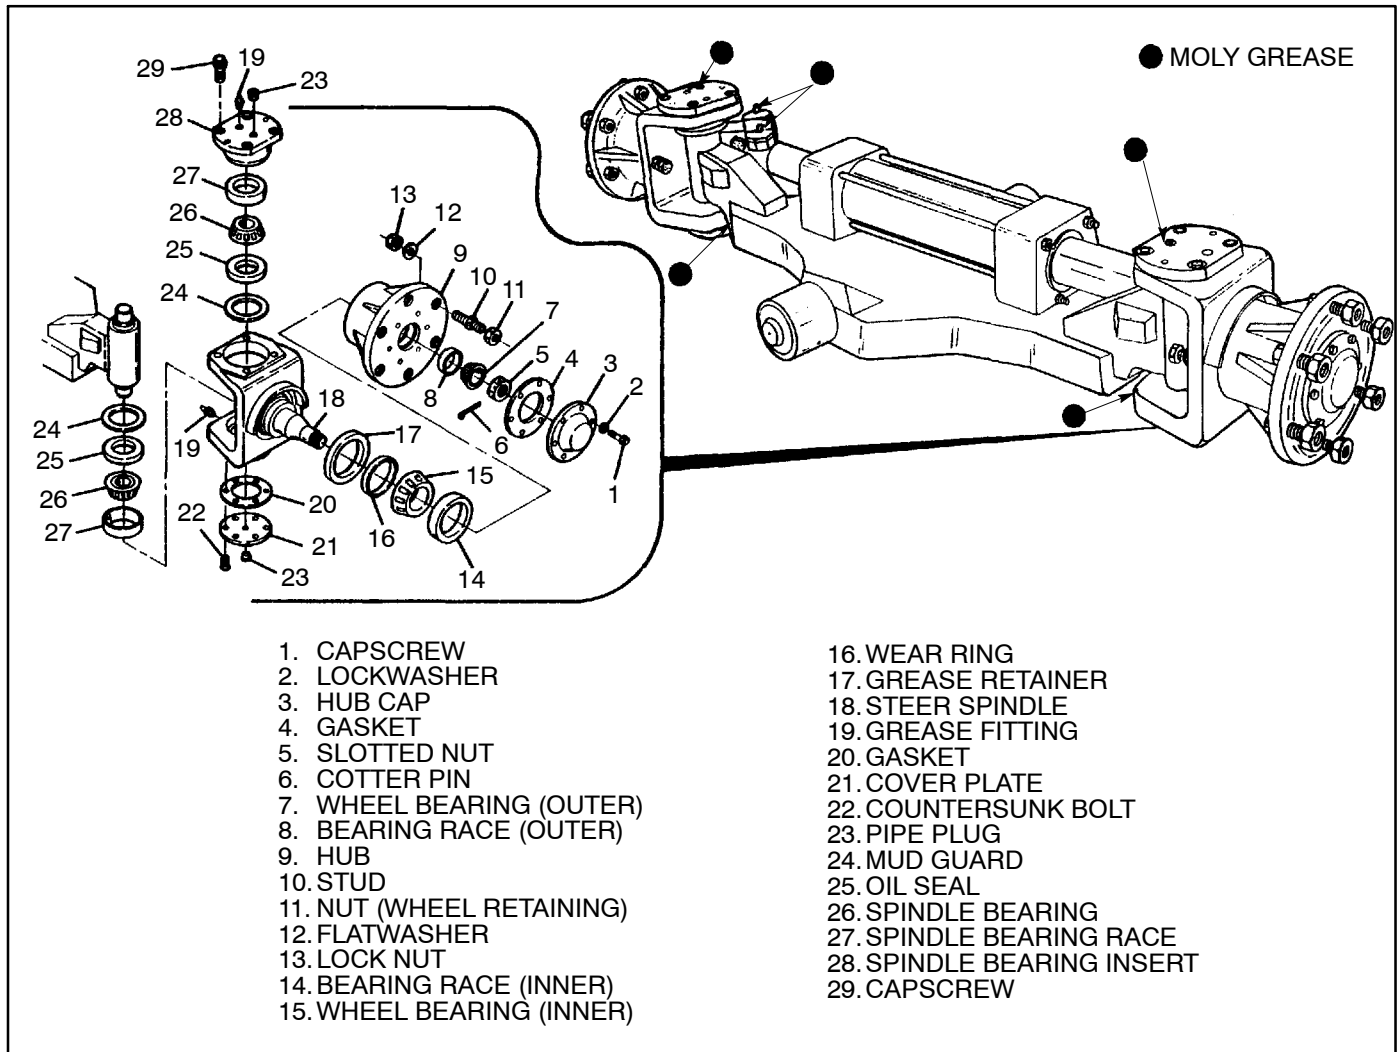

Figure 1. Steer Axle
1. Clean the area around the breather before removing it (See Figure 1).
Lubrication. The location of grease fittings that require lubrication are shown in Figure 1. Refer to the appendices in the back of this manual for service intervals and type of lubricant to be used. If the machine is subjected to heavy work schedule under extreme dusty conditions more frequent lubrication may be necessary. The steer axle hubs have tapered roller bearings that require periodic lubrication.